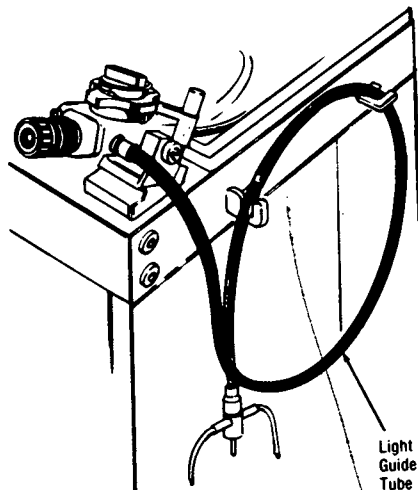

Figure 2-5. POSITION LIGHT GUIDE TUBE.
2. Place the light guide tube on the two supports on the front of the washer so that the light guide connector is suspended from the support closest to the operating head support. See Figure 2-5.